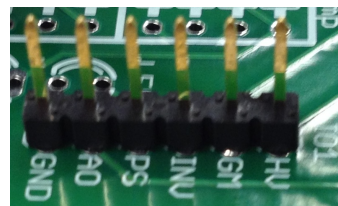

Figure 10: Correct header installation: long gold pins and plastic on TOP of board.
2. The **short** end of the 6-pin header goes into the board, **with the plastic part on top**, see Figure 10.